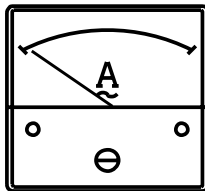

Figure 42. Ammeter (No Load)
6. The ammeter (Figure 42) will indicate **zero amps** with no load applied. When a load is applied, the ammeter will indicate the amount of current that the load is drawing from the generator.